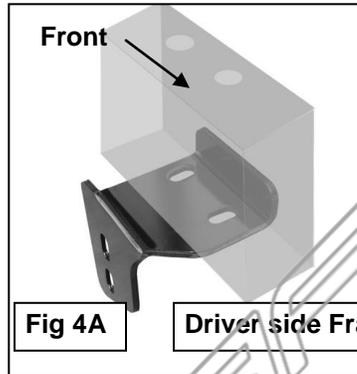

Fig 4A
2. Remove the factory skip plate if equipped. Starting behind the front bumper on the driver side, locate the section of rectangular frame channel attached to the back of the bumper, **(Figure 1)**. Insert (2) 10mm x 120mm Hex Bolts with (2) 10mm x 30mm Large Flat Washers into and down through the (2) vertical holes in the top of the bumper bracket, **(Figures 2 & 3)**. Select the driver side Frame Mounting Bracket. Line up the (2) slots in the Bracket with the (2) 10mm Hex Bolts. Secure the Bracket to the bottom of the bumper bracket with (2) 10mm x 30mm Large Flat Washers and (2) 10mm Nylon Lock Nuts, **(Figures 4A & 4B)**. Do not tighten hardware.